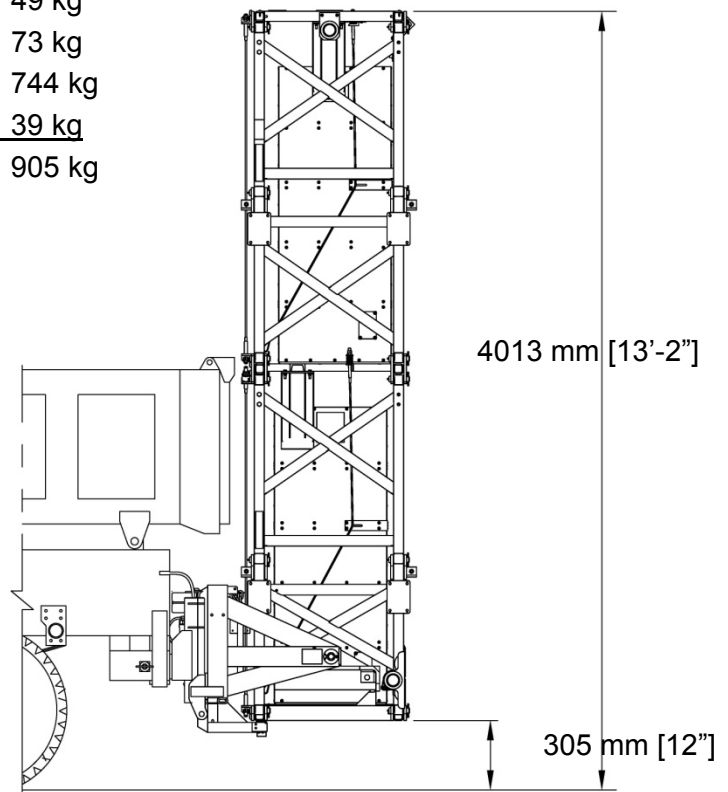

Figure 37
2. Dimensions (See Figures 37 & 38)